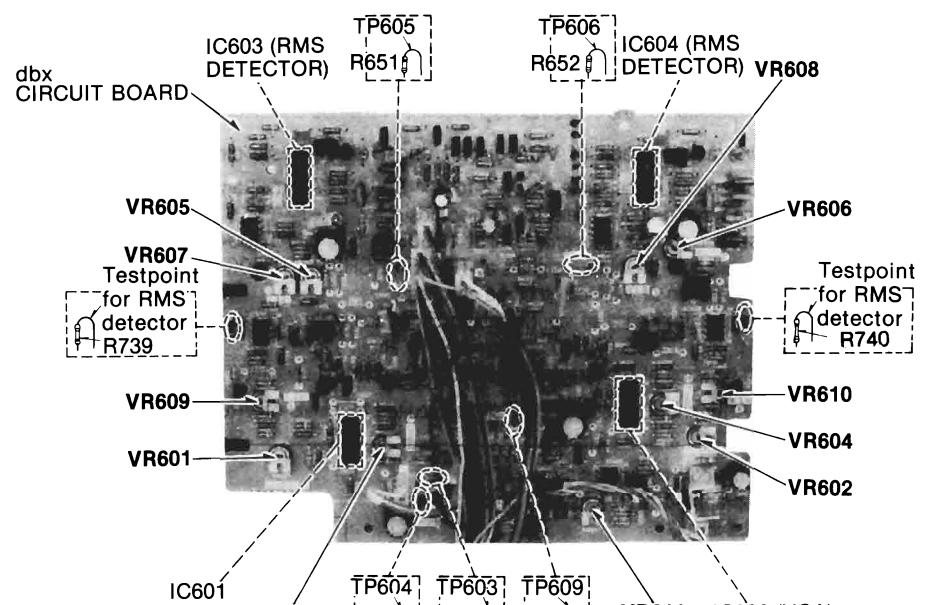
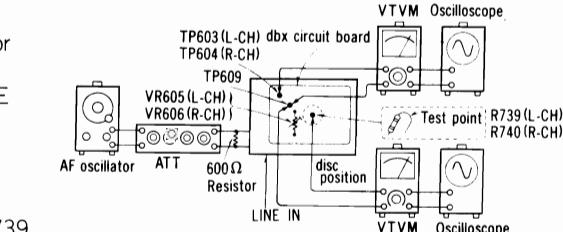
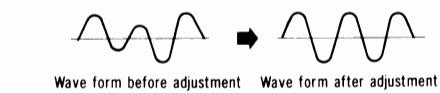

Fig. 2
Fig. 10
Fig. 11
① Adjustment of RMS detector Condition: * Stop mode * Input level controls ... MAX * Noise reduction selector ... disc Equipment: * VTVM * AF oscillator * ATT * Oscilloscope * Resistor (600Ω)	1. Make the connections as shown in fig. 10, and set the noise reduction selector to disc position. 2. Apply 50Hz -27dB signal from LINE IN. 3. Adjust ATT so that the signal level at TP603 (L-CH) and TP604 (R-CH) becomes 300mV. 4. Make sure that the output signal at R739 (L-CH) and R740 (R-CH) (Shown in fig. 2) is at 100Hz sine wave. If the output signal is not sinusoidal as shown in fig. 11, adjust VR605 (L-CH) and VR606 (R-CH) to make it sinusoidal.
② Adjustment of dbx standard level NOTE: Be sure to perform the standard level adjustment in dbx Encode, followed by the standard level adjustment in dbx Decode.	The voltage of the output signal after adjustment is about 0.8 to 1.1mVrms.